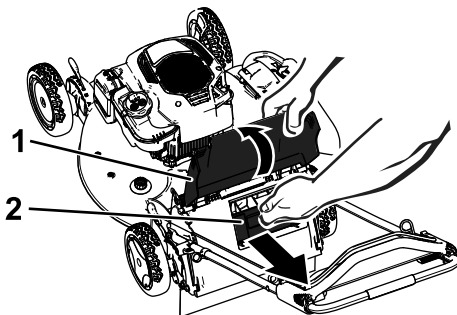

Figure 23
2. Raise and hold up the rear door (Figure 23).
3. Pull out the rear plug (Figure 23).